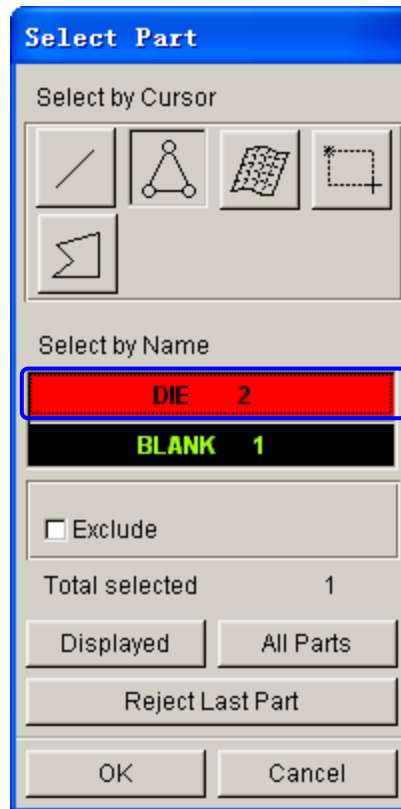

Figure 1.16 Select part dialog box
6. Select **DIE** part from the SELECT PART dialog box illustrated in Figure 1.16.